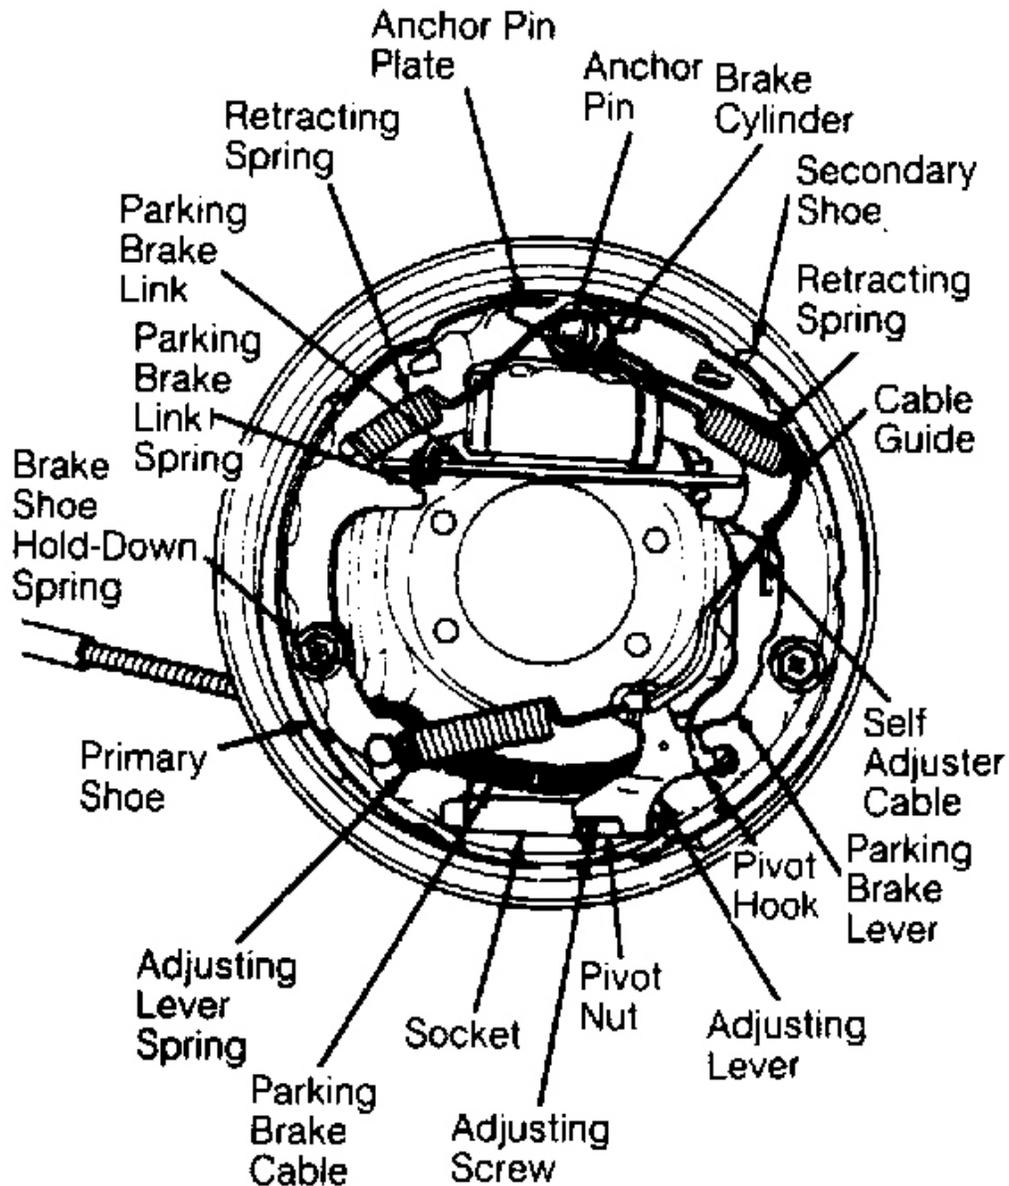

Fig. 19: Examining Rear Brake Assemblies (Navajo)
1. Remove wheel assembly and drum. Place a wheel cylinder clamp over ends of wheel cylinder. Disengage adjusting lever from adjusting screw by pulling backwards on lever cable. See **Fig. 19**.